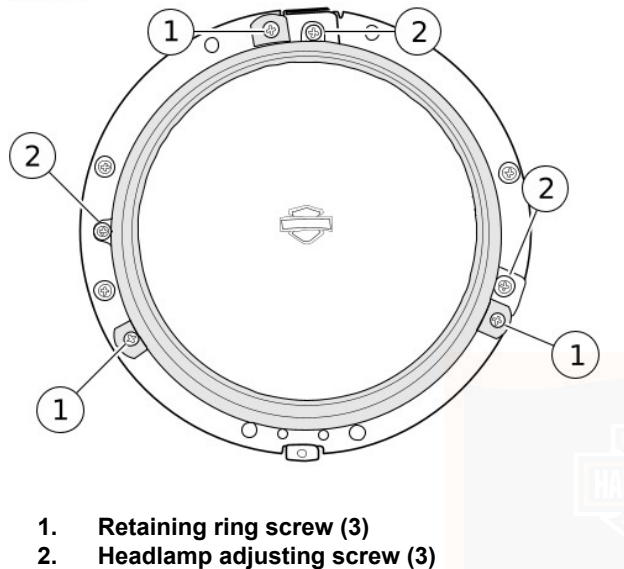

Figure 98. Headlamp Retaining Ring
2. Figure 98 Secure headlamp assembly with retaining ring and screws (1). Tighten.